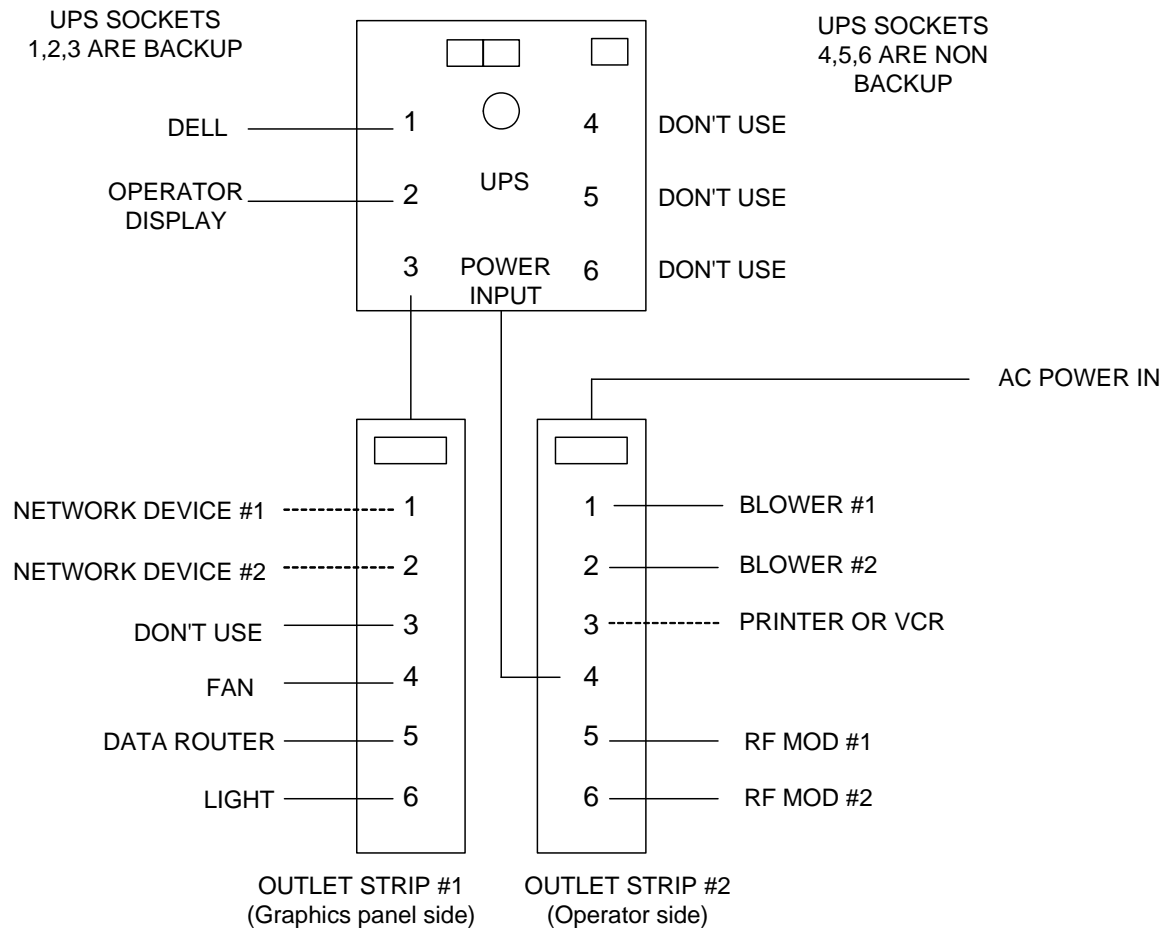
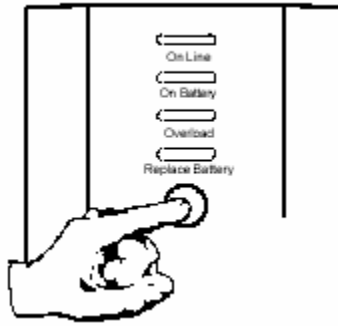

Figure 2.5
Figure 2.6
1. Plug ball console AC power cord into blower #1 socket on outlet strip #2 (Figure 2.5). If present, plug second ball console AC cord into blower #2 socket on outlet strip #2.
1. The main power “ON” switch for the electronic console is located on Outlet Strip #2 (Figure 2.5). After turning on, press the button on the front of the UPS (Figure 2.6).